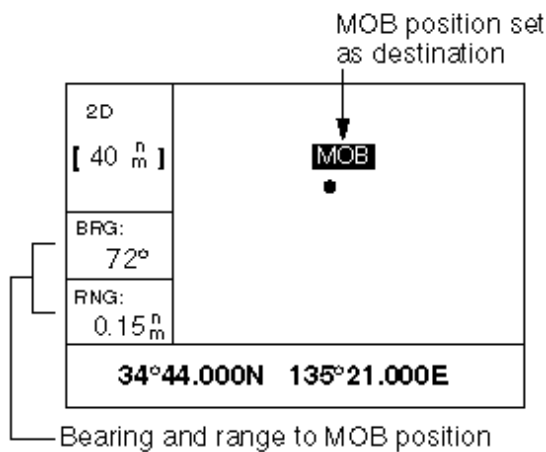

Figure 3-11 Screen appearance when MOB is set as destination
4. To set MOB position as destination, press the [ENT] key. Then, the plotter display marks MOB position as shown in Figure 3-11.